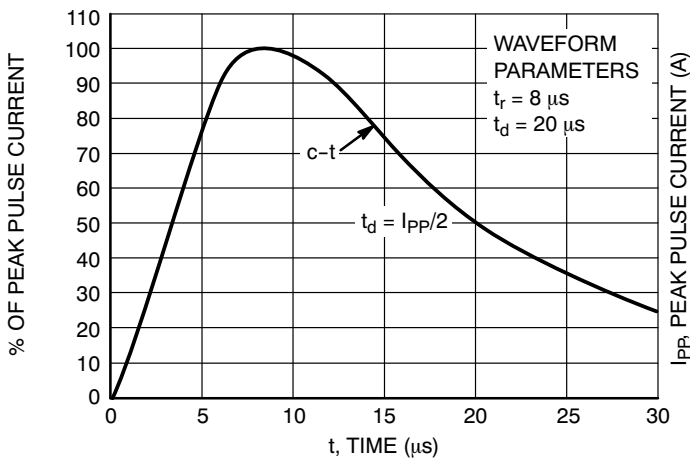

Figure 11. Pulse Waveform,  $8 \times 20\ \mu\text{s}$
10. Pulse waveform per Figure 11.